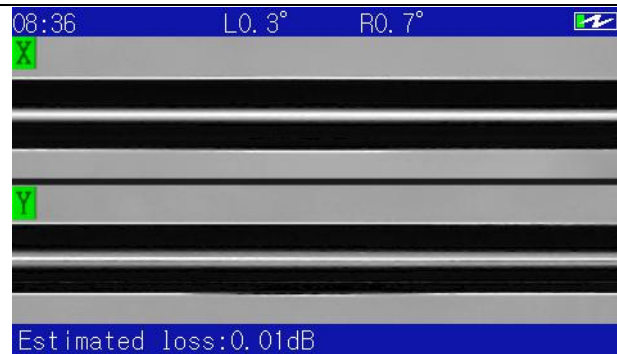

Fig.7-5 Loss estimation
- e) Press  to finish splicing and estimate splice loss, as shown in Fig 7-5 and 7-6.